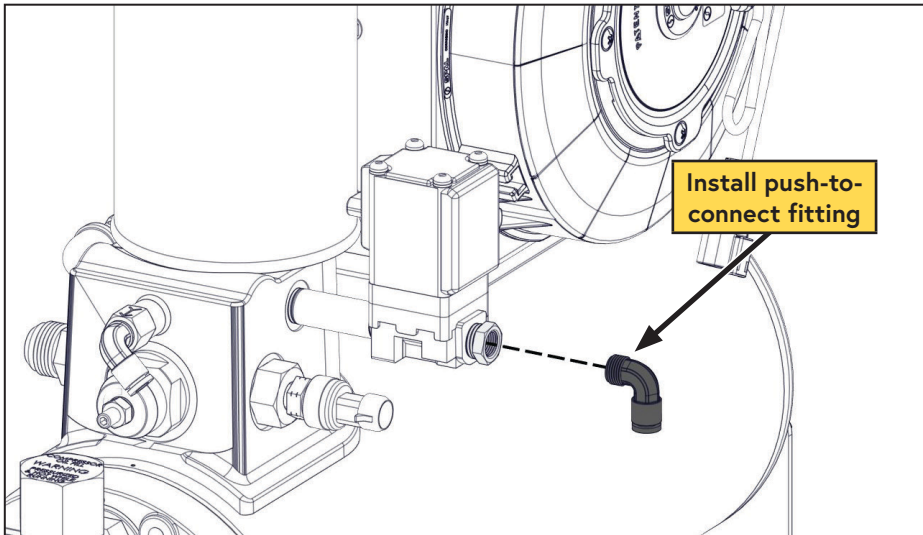

Figure 31 — Install push-to-connect fitting
- Apply Loctite 567 (thread sealing) compound to the 1/4 in push-to-connect fitting and install it into the fitting on the blowdown solenoid (Figure 31).